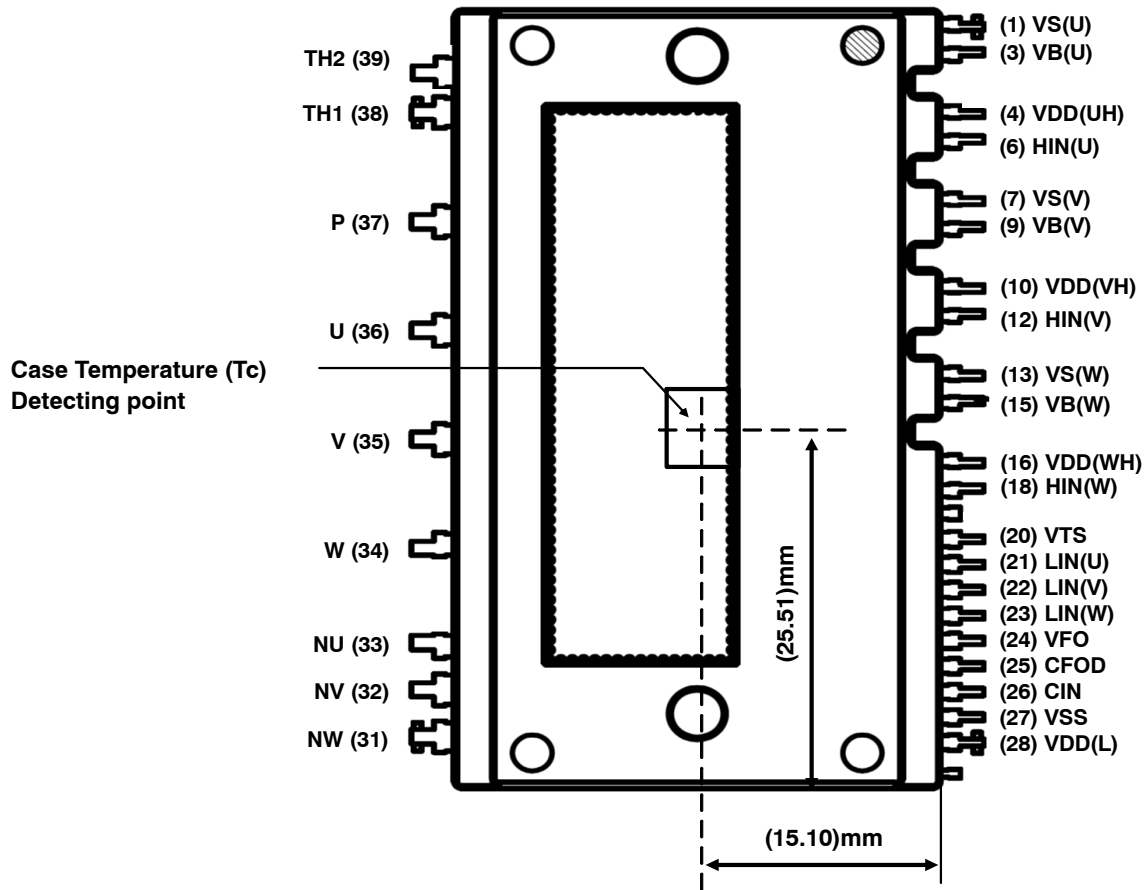

Figure 2. Pin Configuration – Top View
3. For the measurement point of case temperature (Tc), please refer to Figure 2.